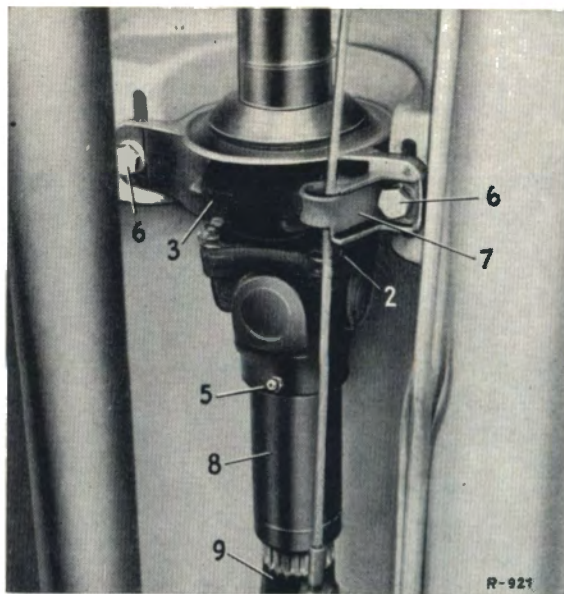

Fig. 26-1/6
and push the propeller shaft back as far as possible, paying attention to the center cross (1) (Fig. 26-1/5).
(3) (see Fig. 26-1/7) and the intermediate shaft (4) of the three-unit propeller shaft on Model 200 and on the ambulance cars Models 200 D and 230 has been provided with two clamp nuts (3a and 3b) (see Fig. 26-1/8).